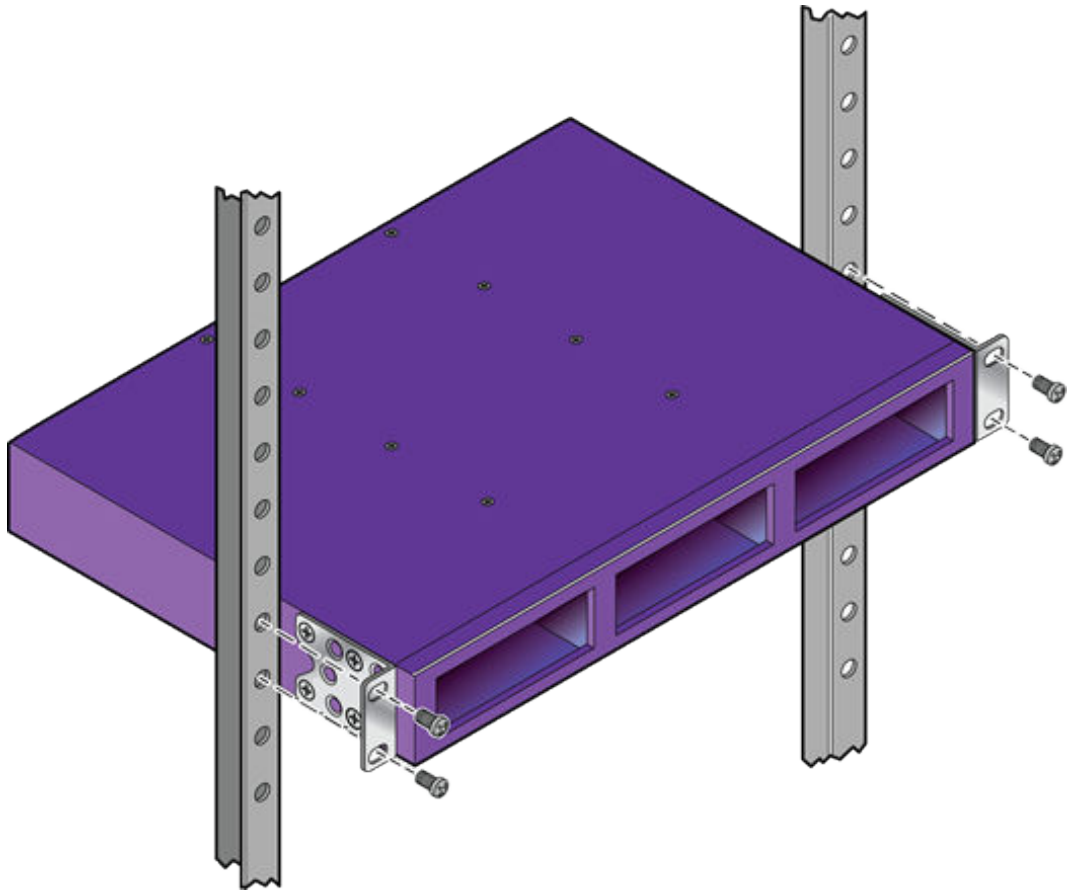

Figure 345: VX-RPS-1000 Shelf Mounted in a Rack
2. Attach the shelf to the rack, using the screws provided, as shown in Figure 345.